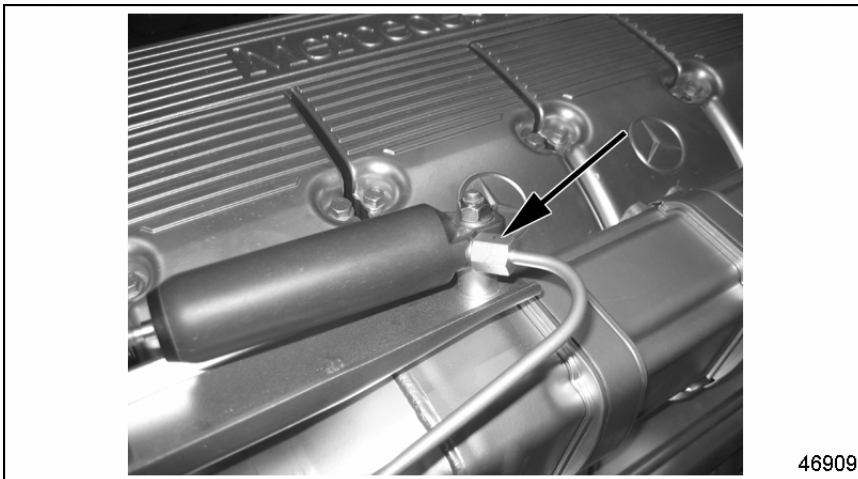

Figure 4 Air Supply Line to Throttle Shutoff Valve Actuator
4. Remove the air supply line to the throttle shutoff valve actuator. See Figure 4.
15. Install the air supply line to the throttle shutoff valve actuator and torque the nut to 25 N·m (18 lb·ft). See Figure 4.